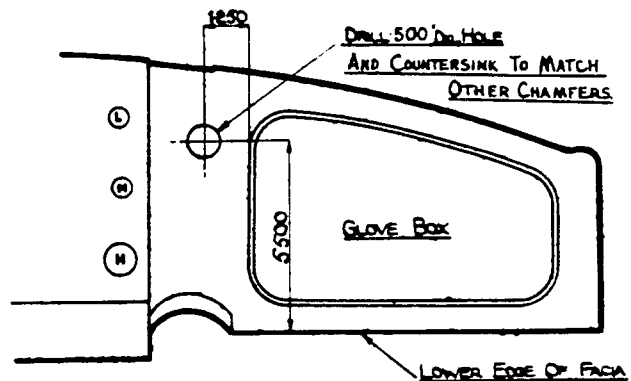

FIG.1. DRILLING INSTRUCTIONS FOR FACIA PANEL.
1. Mark off and drill the facia panel to the dimensions given in Fig.1.